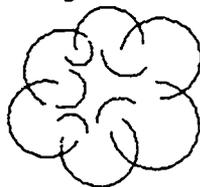

Figure C-3-3
4. Take a cotton ball and put a hole in the middle of it with your thermometer (should look like a donut). Your thermometer will fit in it. See Figure C-3-3, "Preparing Cotton Ball."